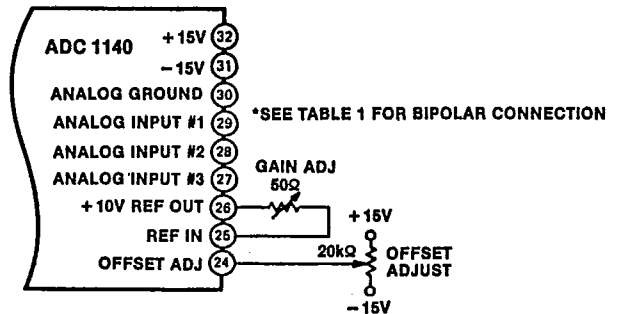

Figure 2 Offset and Gain Calibration
Refer to Figure 2 and adjust offset and gain errors to zero by using potentiometers. It should be noted that this is a highly accurate converter and requires the use of a clean, accurate input voltage source and must be stable. The required value at either end is within 1μV. Good quality cermet potentiometers having 10 to 15 turns with 100ppm/°C temperature coefficients should be utilized. It is recommended that the offset be adjusted first, ensuring that gain and offset adjustment remain separate from each other.
*Bipolar:* +1mA offset current from the reference is channeled to the comparator input via pin 29. The device is thus enabled to accept either  $\pm 5V$  or  $\pm 10V$  inputs. Input comparison to output current occurs again. Refer to Figure 2 and Gain Calibration section.